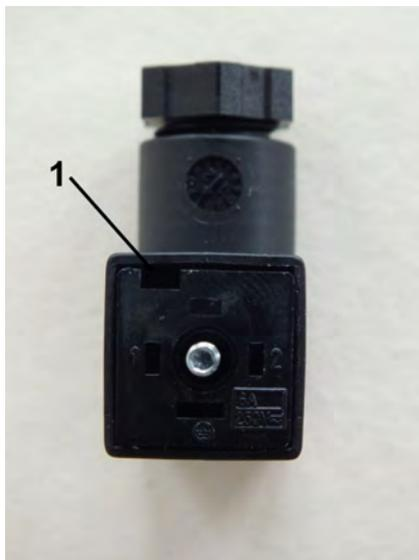

Fig. 23: Disconnect inner section
3.  Remove the inner section from the socket. To do this, place a flat-bladed screwdriver into the slot (Fig. 23/1) and carefully pry out the inner section. and carefully pry out the inner section.
7.  Place the inner section (Fig. 23/1) back into the socket and push until it locks on